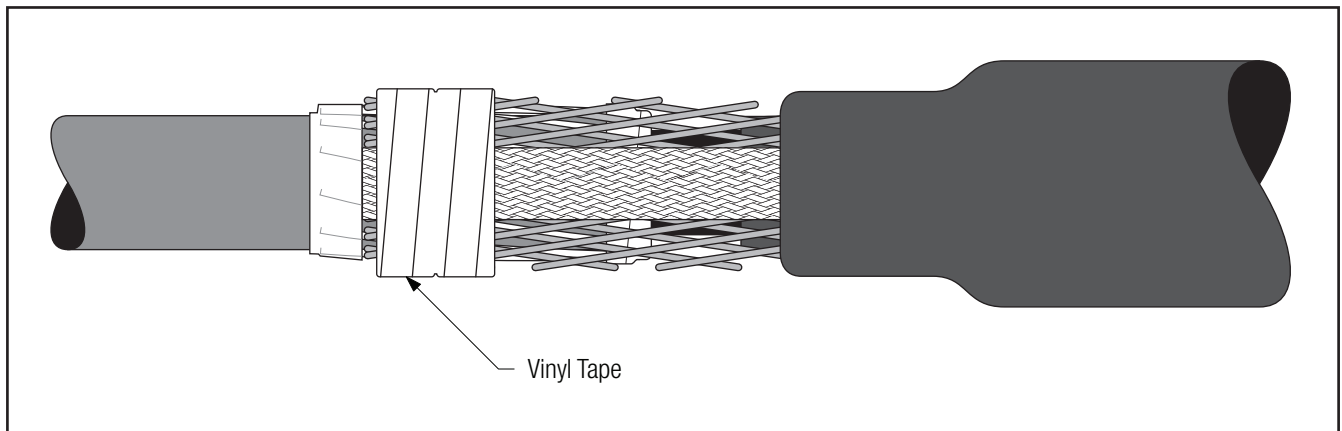

Figure 17
- 5.4 Wrap two half-lapped layers of vinyl tape over the constant force springs (Figure 17).